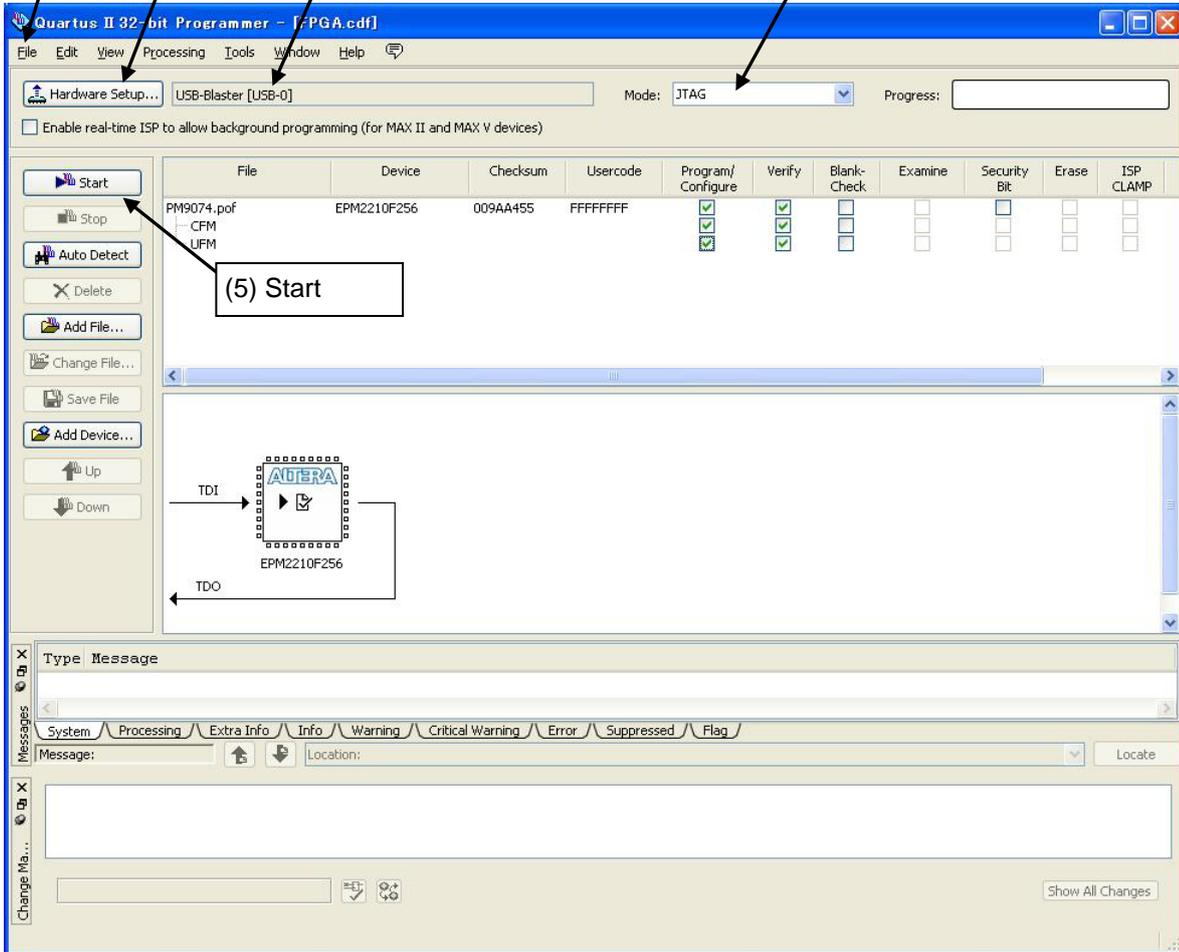

Fig. 2. CPLD Setting window
5. Check that ByteBlaster II (or USB Blaster) is selected (Fig. 2. (2)).
If ByteBlaster II that is connected to PC is not selected, or "No Hardware" is displayed, click [Hardware Setup](Fig. 2. (2)) and select the connected ByteBlaster II.
6. Select [JTAG] under [Mode] (Fig. 2. (3)).
8. Go to [File] > [Open], then open FPGA.cdf. (Fig. 2. (4)).
9. Click Quartus II Programmer [Start] to update (Fig. 2. (5)).
8. Go to [File] > [Open], then open FPGA3.cdf. (Fig. 2. (4)).